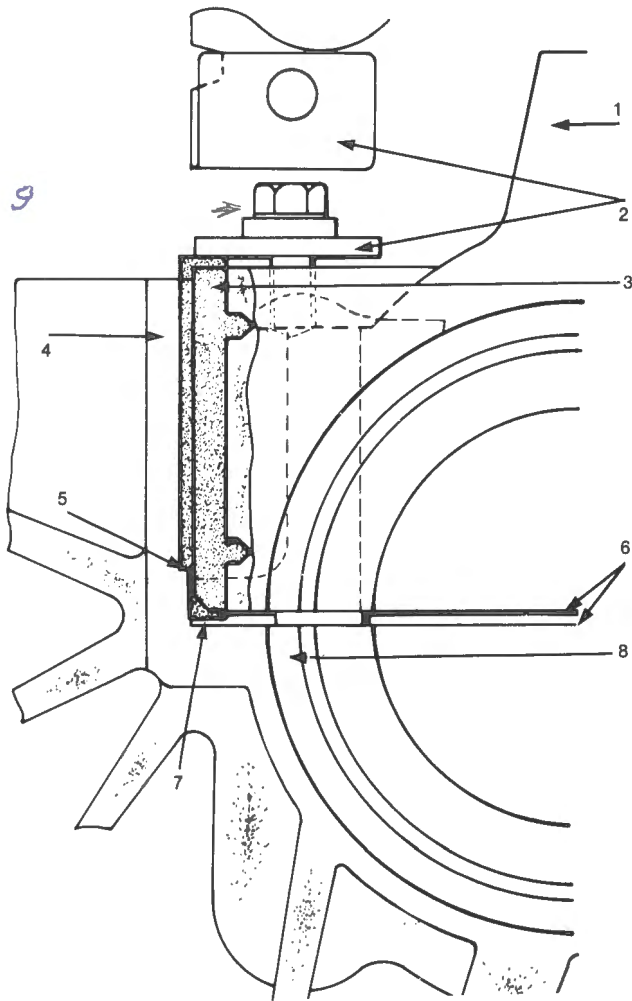

Fig. D-99
- (b) Apply a very thin coating of sealer to the block as shown in Fig. D-99.